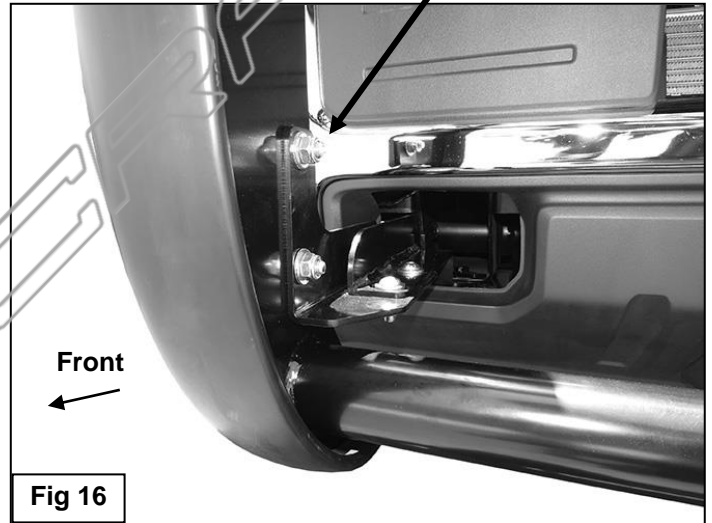

Fig 16
10. With assistance, hold the Grille Guard up in position on the outside of the Mounting Brackets. Bolt the Grille Guard to the Brackets with (4) 10mm x 30mm Button Head Bolts, (8) 10mm Flat Washers and (4) 10mm Nylon Lock Nuts. **(Figure 16)**. Do not tighten hardware at this time.